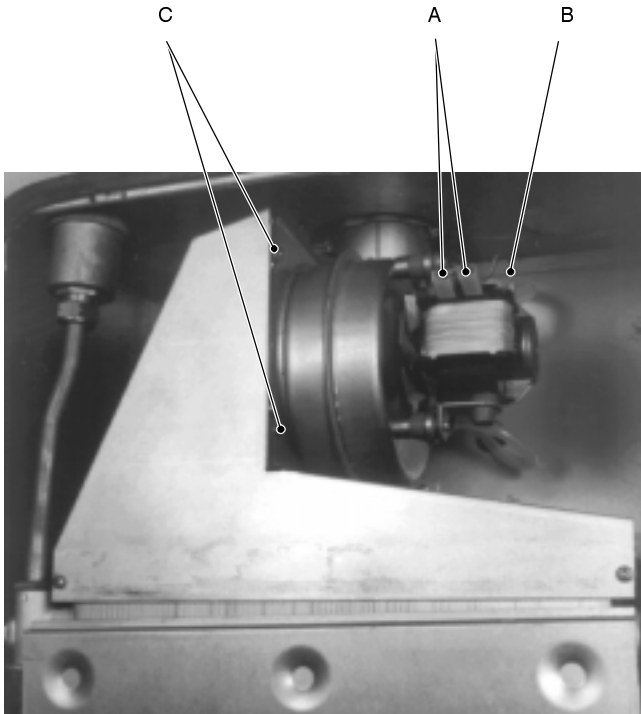

fig. 72
Disconnect the connectors A (fig. 72) and measure the electrical resistance of the motor that has to be about 47 Ω.
- 2 disconnect the connectors *A* and the earth connection *B* (fig. 72);